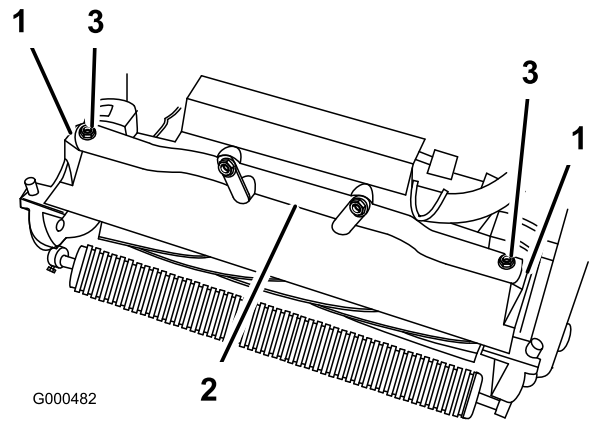

Figure 47
4. Remove (2) bolts securing cutting unit pivot arms to traction unit frame tube (Figure 47).
5. Rotate pivot arms forward (Figure 47) and rest traction unit on restrained kickstand.